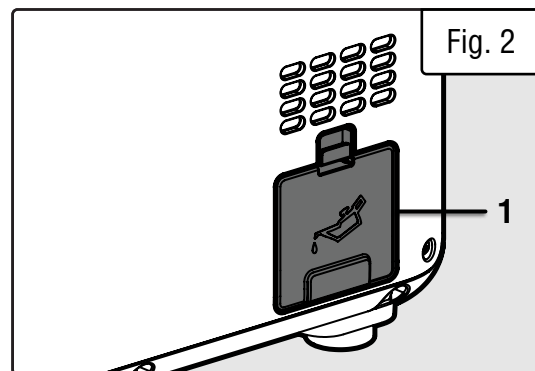

Fig. 2
2. Pull down and out on the release tab at the top of the oil access cover (Fig. 2 - 1). Then unscrew the oil dipstick from the engine.